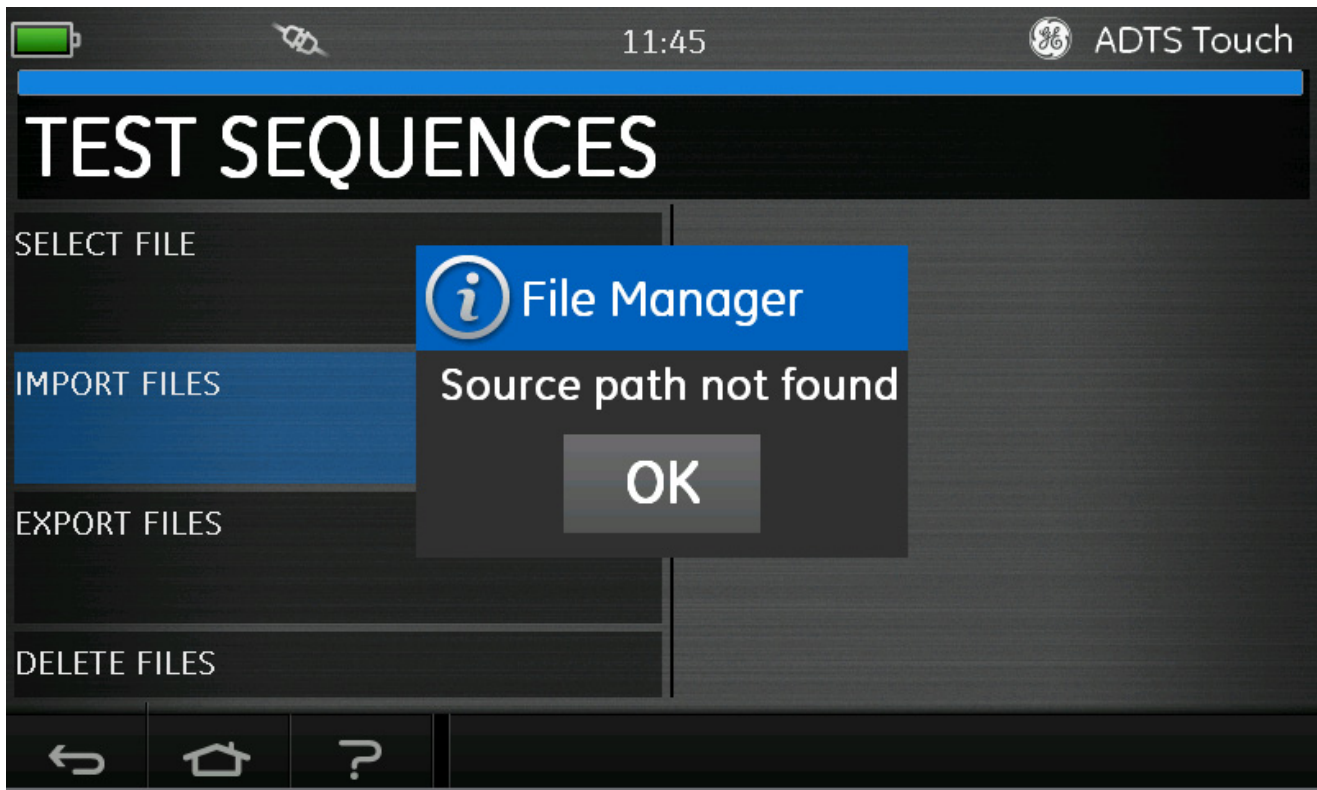

Figure 3-40: Import files error message
- 7) The error message in Figure 3-40 will be displayed if no test sequence files are located on the USB device.